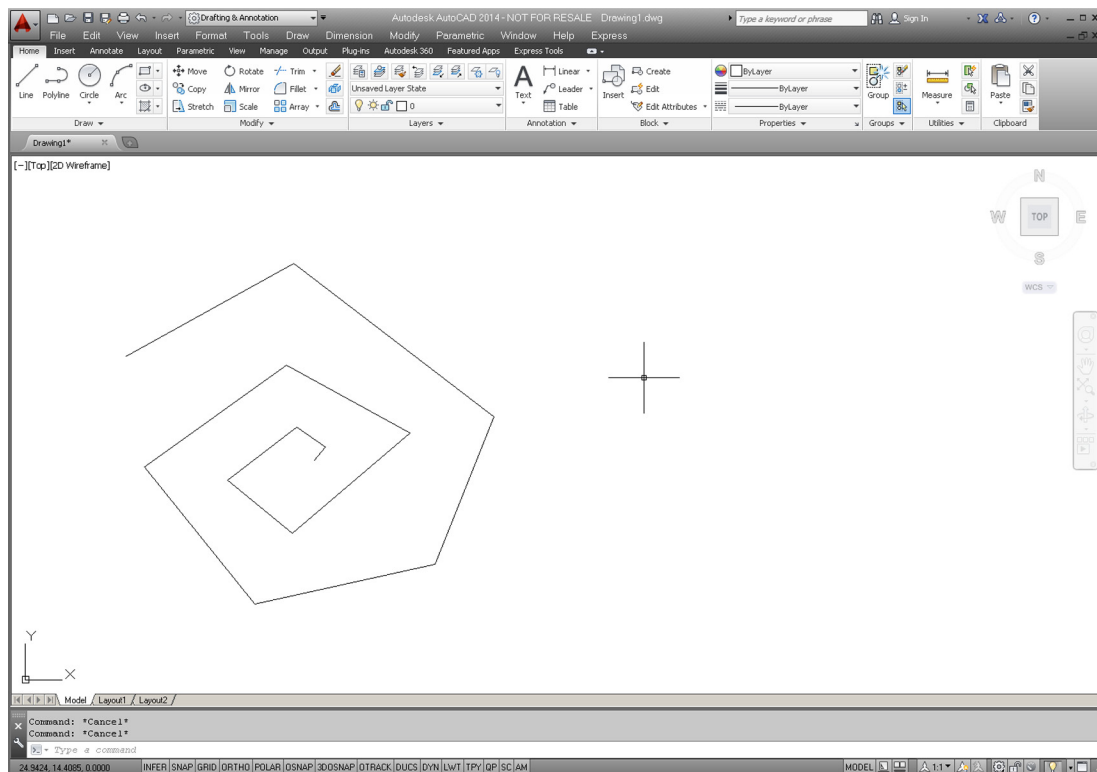

FIGURE 1.12
Step 3. Move the mouse elsewhere on the screen and left-click again. You can repeat Step 2 as many times as you wish. When you are done, click Enter or Esc. You should have a bunch of lines on your screen, either separate or connected together, as shown in Figure 1.12.